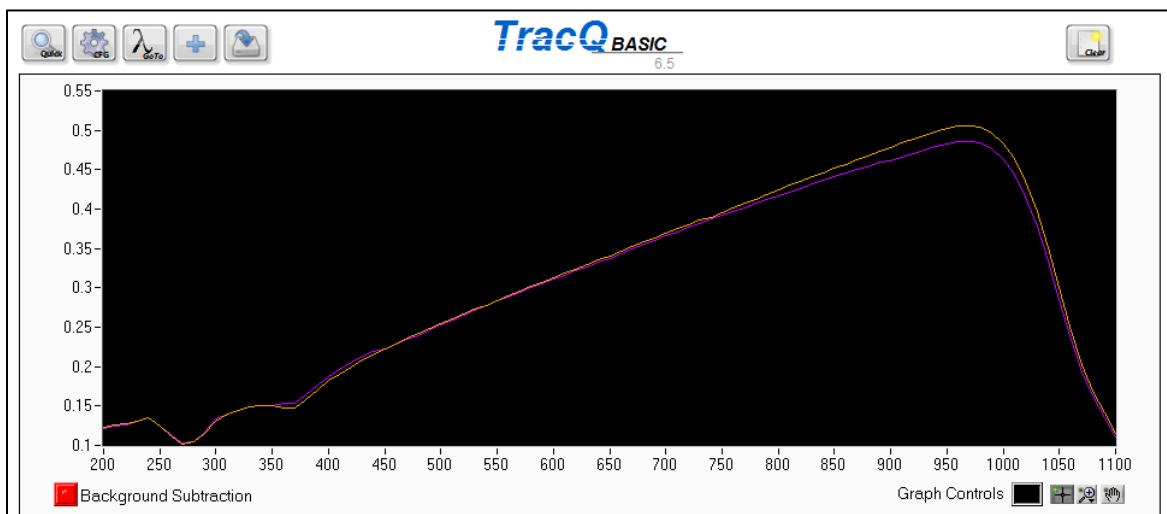

Figure 110: Detector Spectral Responsivity Changes
- Determine if the calibrated detector requires recalibration. Spectral responsivity changes over time, particularly when the detector is subjected to UV light. The spectral responsivity plot in Figure 110 is of the exact same detector, with calibration data taken five years apart. Newport suggests annual recalibration of detectors.